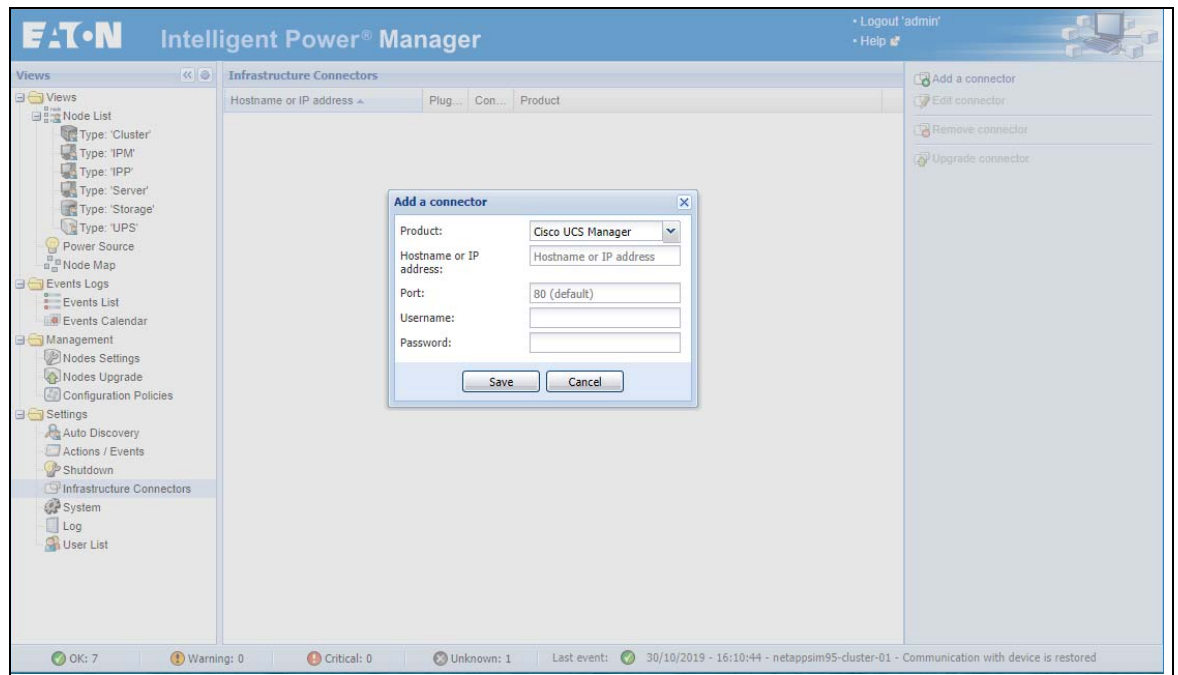

Figure 206. Select Add a Connector
1. From the left-side **Views** panel of the Eaton IPM main interface window, select the **Settings > Infrastructure Connectors** menu item. The Infrastructure Connectors page displays (see Figure 206).